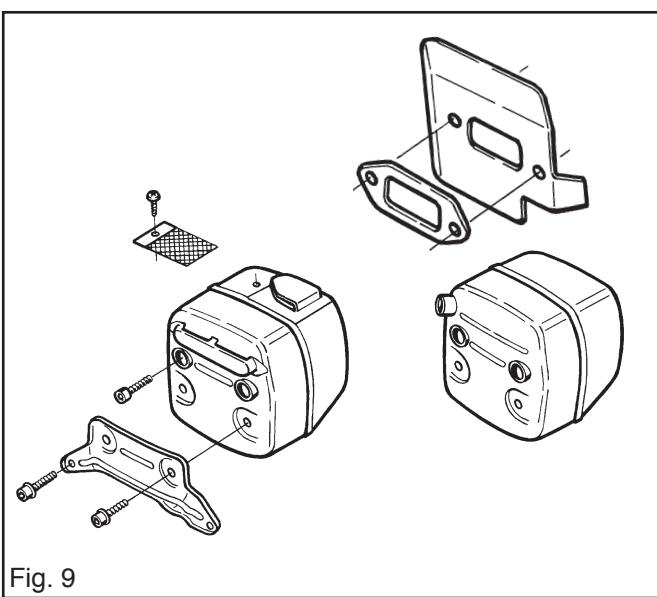

Fig. 9
1. Remove the two M5-bolts and the two M6-bolts and lift off the silencer and silencer mount. See fig. 9.
2. Remove the gasket and cooling plate. See fig. 9.
3. If the saw is equipped with a spark guard, this should be removed. See fig. 9.